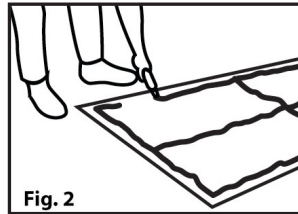

Fig. 2
4. Remove the panel from the marked installation area, flip over and apply a continuous bead of NP-1 adhesive to the back of the panel approximately  $\frac{3}{4}$ " from the edge following the scored perimeter and center cross pattern. (Figure 2)